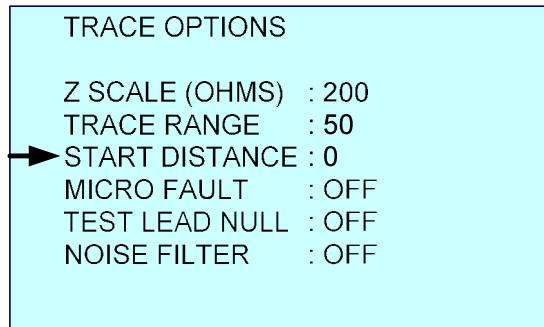

Figure 3-53
1. Press the menu key. See figure 3-53